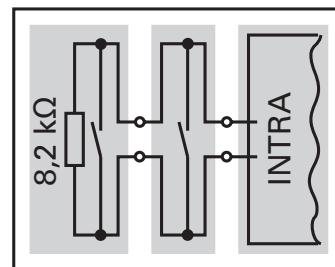

Fig.10
- Several safety edges on the same input must be connected in series (Fig.10)
- The last safety edge must be terminated with an 8.2 kohm resistor (Fig.10)